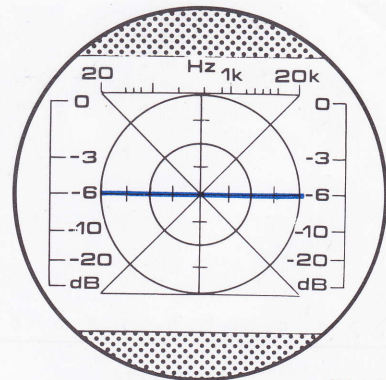

Fig. 31
4. Adjust VR1 and VR3 so that line is centered as shown in Fig. 31.